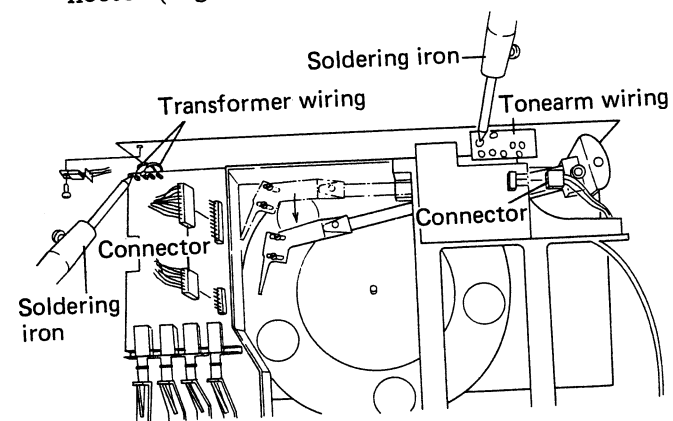

Fig. 5-3 Escutcheon cover removal
4. Wiring from the transformer, tonearm, and auto function is located on the rear side of the escutcheon cover. Remove these wires by desoldering. Also remove the end sensor connector (Figure 5-3).